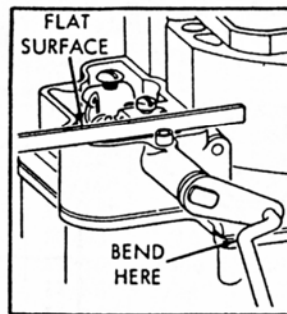

Figure 3
VI. PUMP ADJUSTMENT. (See figure 3.)
- b. Hold a straight edge across top of dust cover housing, next to the pump arm. The flat surface of the pump arm should be parallel to the straight edge. Adjust by bending throttle connector rod at deepest angle as shown in figure 3.